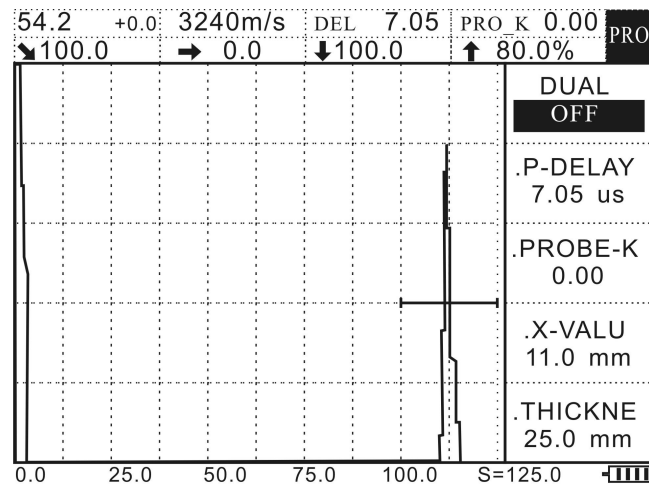

Figure 4-6
4. Calibrate the probe zero: put the probe on the test block and move it till the reflection echo of the hollows of R100mm reaches its highest level. The sound path value will be displayed at the top left corner on the screen, if the value isn't 100mm, press **PROBE** to enter the probe menu, press **▲** (up) or **▼** (down) to select the probe zero submenu, then press **◀** (left) or **▶** (right) to set the value as 100mm. or direct press **PEAK MEM** to calibrate the probe zero automatically. As shown in Figure 4-6, the probe zero calibration is finished.